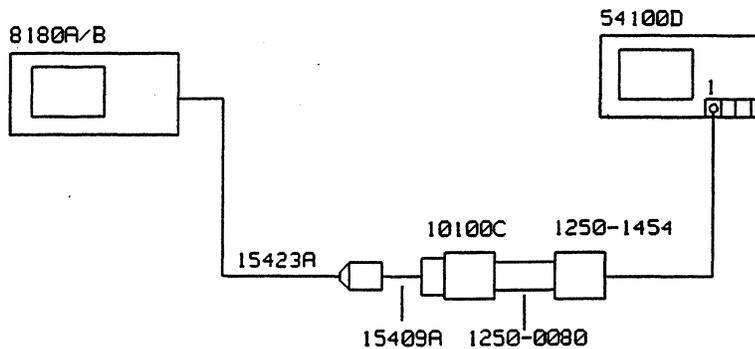

Figure 11-10. Test Setup for the Transition Time / Overshoot Test
6. Connect the equipment as shown in Figure 11-10 and press RUN.